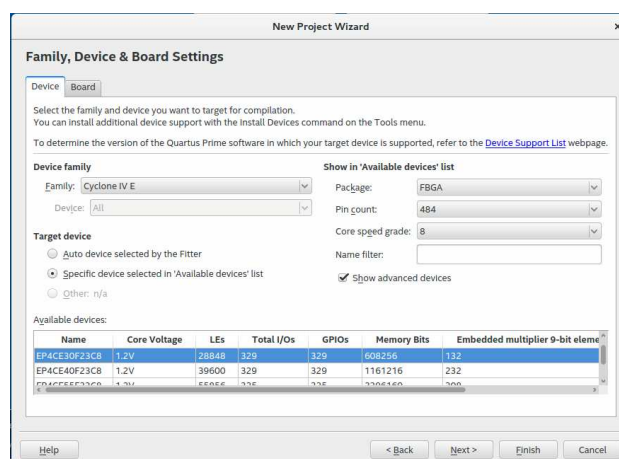

Figure 3: Selection of the FPGA in use
11. The window should look like the figure 3. Click **Finish**.